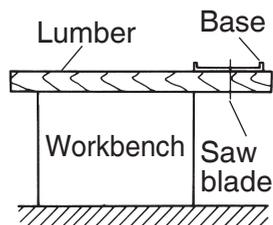

Fig. 15
2. Prepare a wooden workbench (**Fig. 15**)